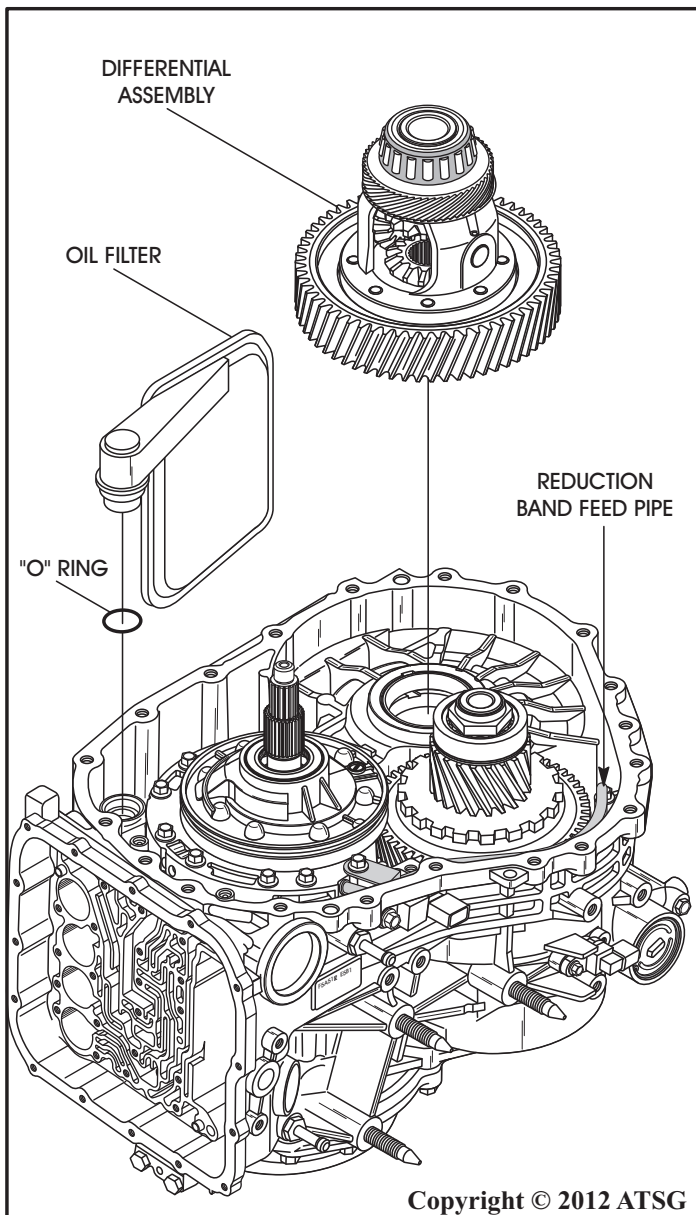

Figure 65
23. Remove and discard the oil filter and "O" ring, as shown in Figure 65.
24. Remove the differential assembly from case, as shown in Figure 65.